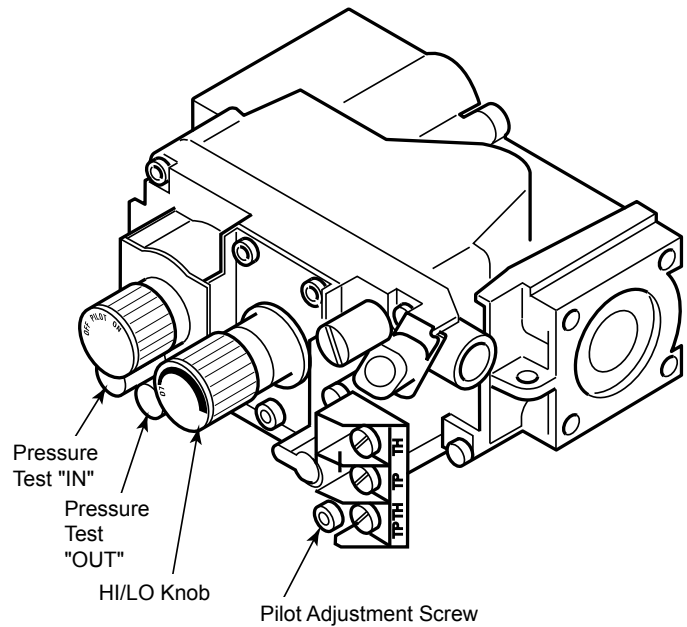

**Figure 16 -
5. To check gas pressures at valve, turn captured screw counter clockwise 2 or 3 turns and then place tubing to pressure gauge over test point. Turn unit to high. *Figure 16*. After taking pressure reading, be sure and turn captured screw clockwise firmly to reseal. Do not over torque. Check test points for gas leaks with a soap and water solution or an electronic gas leak detector.